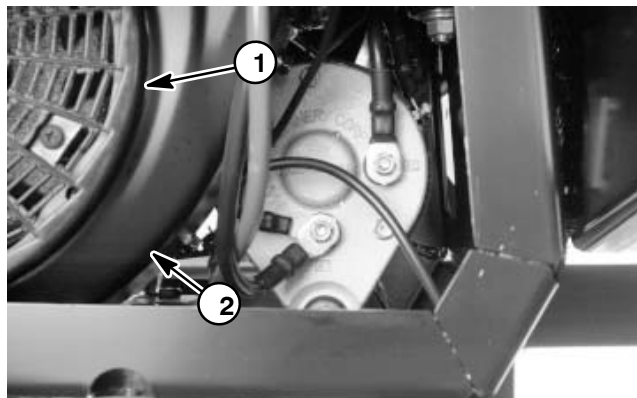

Figure 14
4. Clean rotating screen and blower housing of dirt and debris. Remove screen and housing if necessary (Fig.14).